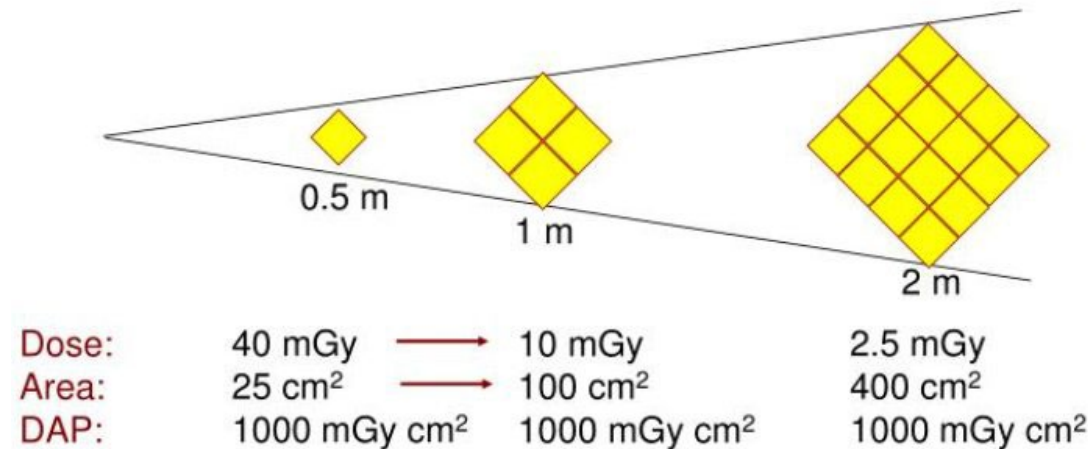

Fig. 26 – Invariance of DAP to the distance from the focus
- The **dose area product (DAP)**, expressed in $\text{mGy} \times \text{cm}^2$, is the product of the air kerma (K_a) and the exposed area (A) over a uniformly exposed area.
- The DAP is **independent of the distance to focus**, which facilitates the comparison of measured DAP values in dose survey studies (Fig. 26).